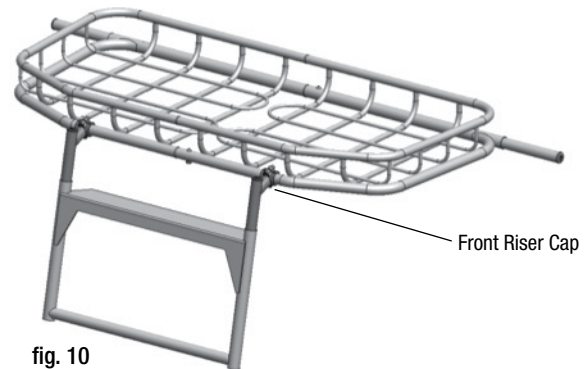

fig. 10
- 9** Attach the riser assembly to the front of the hood rack and bolt the two front riser caps in place as shown in figure 10. Using a #5 allen wrench, snug the cap bolts, but keep them loose enough to allow rotation. Make sure all 4 clamps are open, then set the rack in place.